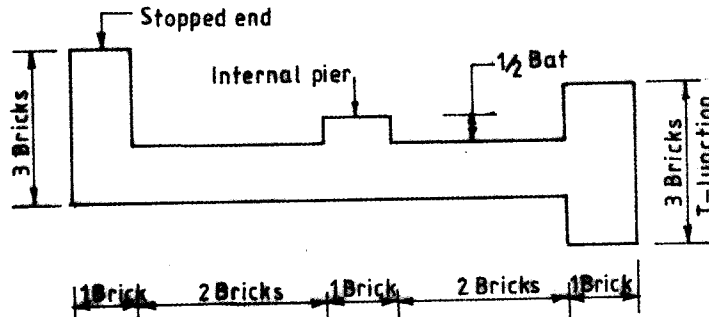

FIGURE 5
- (b) Figure 5 shows the plan of a one brick thick wall with a pier and a T junction built in English bond.